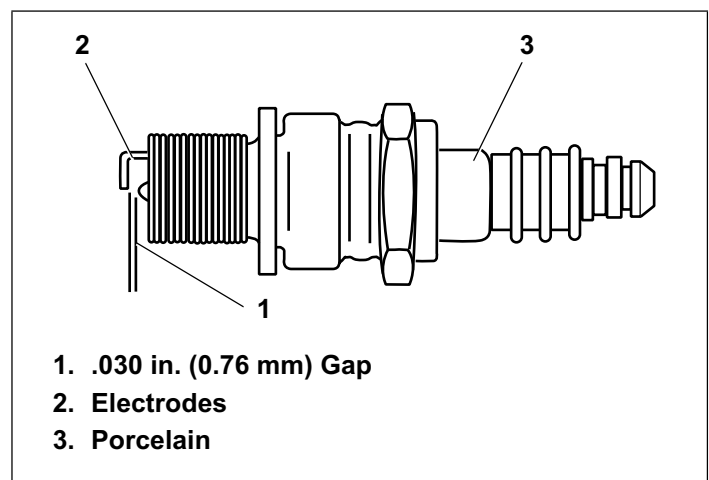

Figure 23. Spark Plug
4. Check electrode gap with wire feeler gauge and set gap to—.030 in. (0.76 mm) if necessary. See Figure 23.